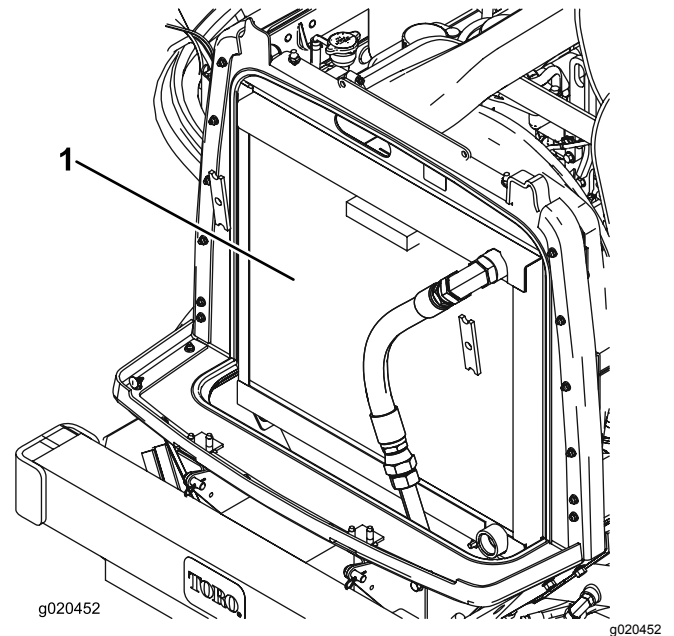

Figure 95
3. Clean both sides of the radiator/oil cooler area thoroughly with compressed air (Figure 95).